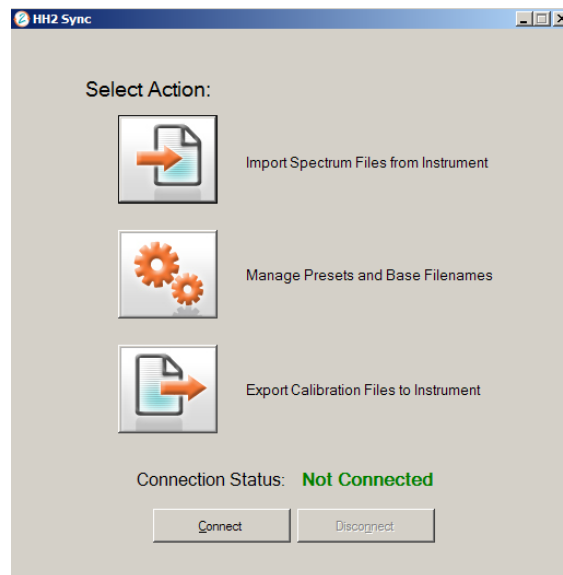

Figure 3-48: HH2 Sync Select Action screen
- Step 3 Click on the HH2 Sync shortcut on the computer desktop. The HH2 Sync introductory screen will appear for a few seconds. After a few seconds, the *Select Action* screen will appear (Figure 3-48).